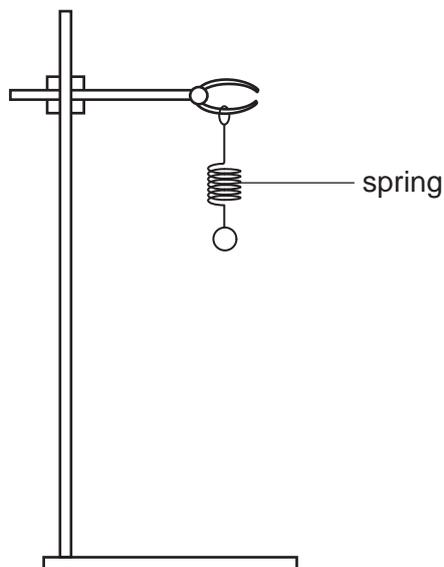

Fig. 7.1
A spring has been set up in a clamp for you, as shown in Fig. 7.1.
- (ii) Use a double-headed arrow (\longleftrightarrow) to show **on Fig. 7.1** the length l_0 that you measured. [1]